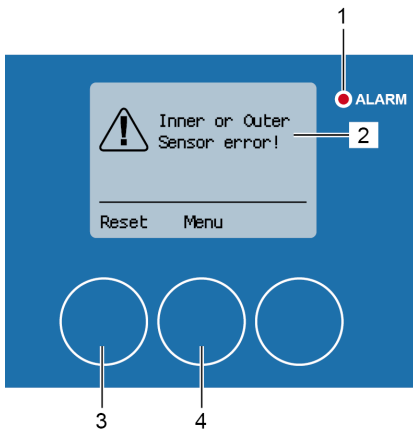

Fig. 189: Inner or outer sensor alarm
The alarm message "Inner or Outer sensor error!" (Fig. 189/2) occurs during the cleaning process if there is a problem with the inner and/or outer proximity sensor. The red alarm LED (Fig. 189/1) lights up.
2. Reset the alarm message with [Reset] (Fig. 189/3).
If the alarm message is reset without first rectifying the error, the alarm message appears again. The "1 Main menu" menu can be called up via [Menu] (Fig. 189/4), e.g. to check the signal status of the proximity sensors ↗ chapter 7.6 Status indicators on page 105.